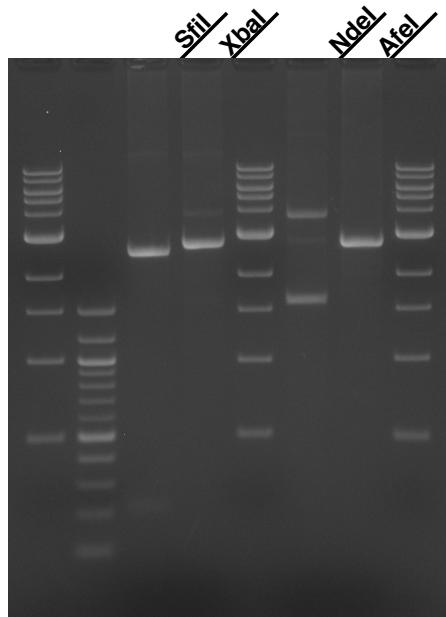

Figure 11: Library QC Digest
- Digestion gel should look similar to figure 11.